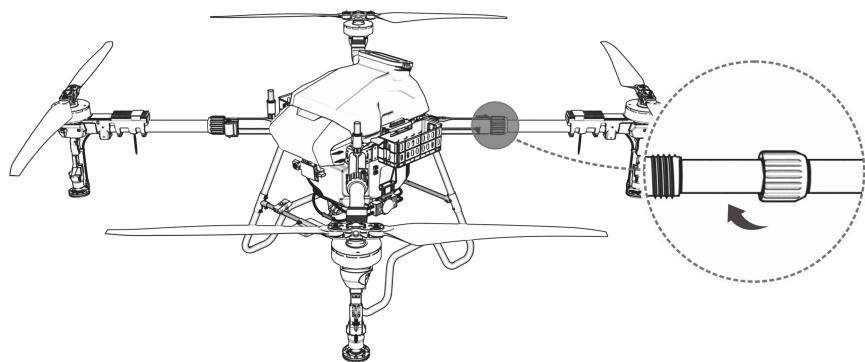

Figure 1-34 Arm Clamp
**Step 4:** Make sure the clamping component is tightened, as shown in Figure 1-34.